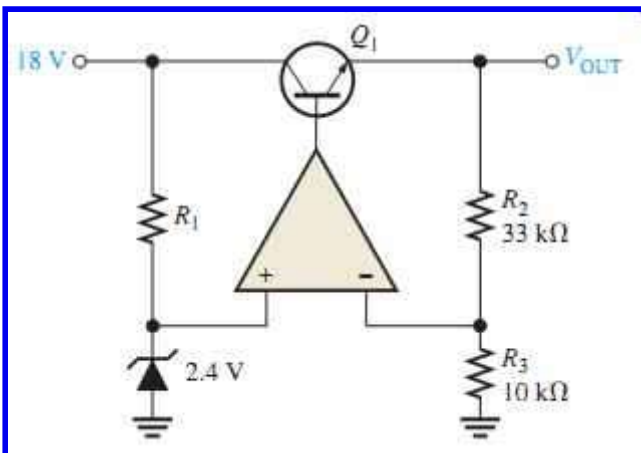

FIG. 45 Multisim file circuits are identified with a logo and are in the Problems folder on the companion website.
6. Determine the output voltage for the regulator in FIG. 45.
Filenames correspond to figure numbers (e.g., Fig. 45).